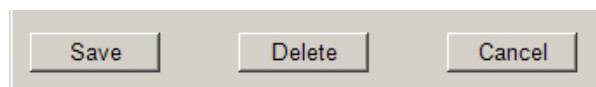

Figure 2-1: Save, Delete and Cancel Buttons
- The configuration tool is a true HMI, and has no database of its own. Changes made and saved using the Save button at the bottom left (Figure 2-1) of each configuration screen are saved **only** to the connected Master Terminal. To propagate changes to other terminals in a cluster, a Synchronize process (refer to File on page 2-4) must be run **while the system is off-line**.